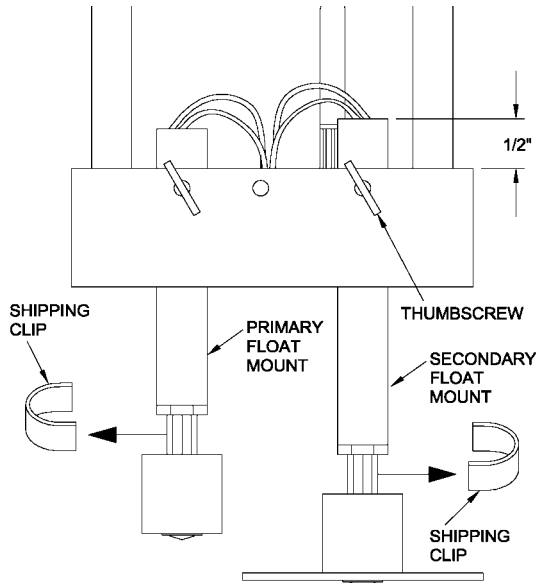

Figure 3-2. Shipping Clips and Initial Positioning of Secondary Float
4. Refer to figure 3-2 and adjust the secondary float mount until only $\frac{1}{2}$ inch of the mount is above the top of the transmitter body. Tighten thumbscrew.